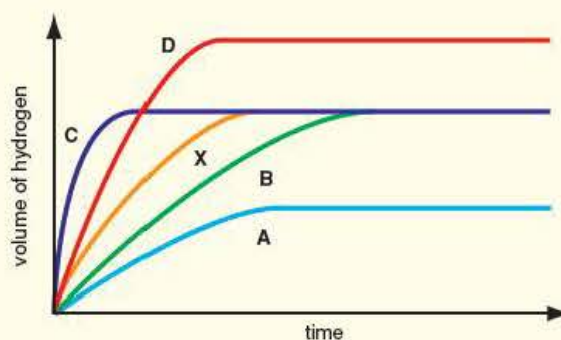

Figure 11.7
- 1 The curves in the graph in Figure 11.7 show the volume of hydrogen produced during different experiments to investigate the reaction between magnesium and hydrochloric acid. Curve X is obtained when 1 g of magnesium ribbon reacts with 100 cm³ (excess) hydrochloric acid at 30°C. Which of the curves A, B, C or D would you expect to obtain when: